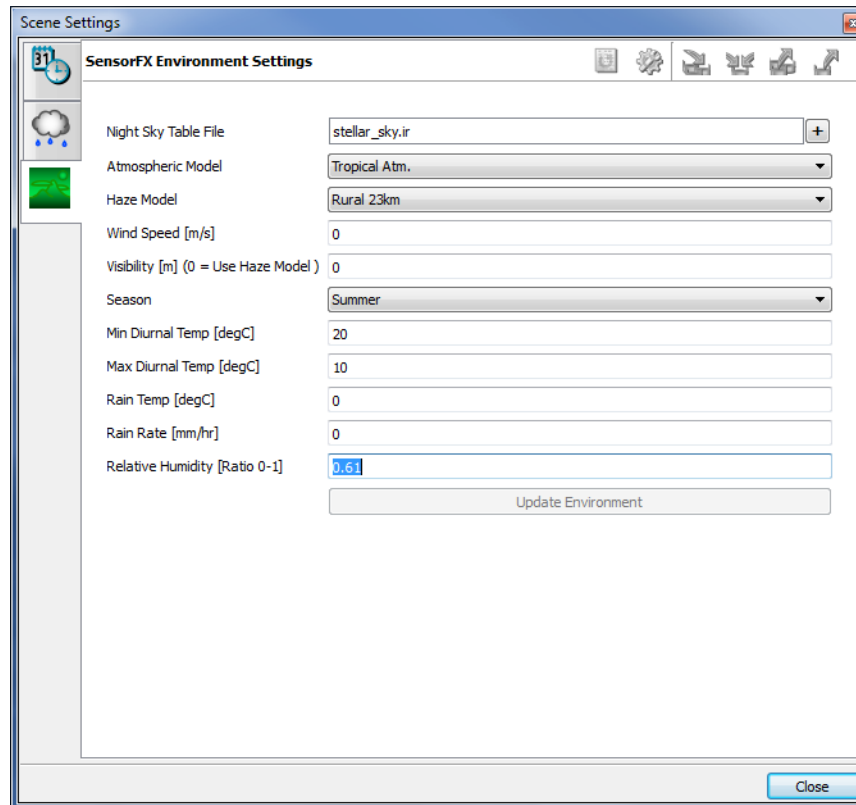

Figure 1-1. SensorFX Environment Settings page
2. Select the SensorFX Environment Settings page (Figure 1-1).